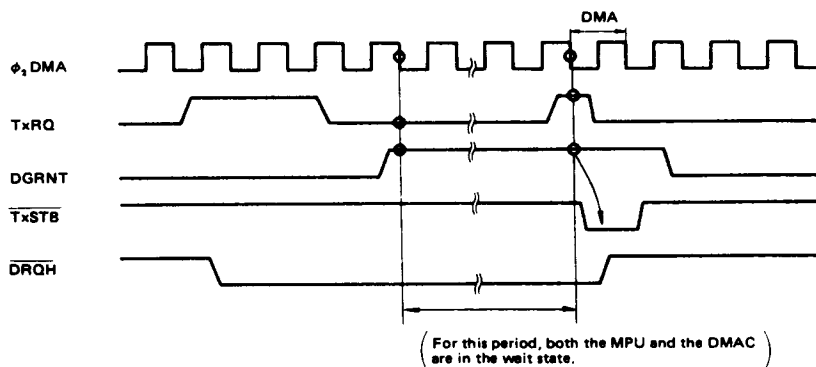

Figure 14 Extraordinary TxRQ Input (1)
- (1) In the case where TxRQ becomes "High", but it is reset to "Low" before DGRNT becomes "High". In this case, the DMAC is in the wait state without sending out TxSTB until TxRQ rises to "High" again. As DRQH remains "Low" the MPU is forced to be stopped, and the system is in dead lock state until TxRQ rises to "High" again (Fig. 14).